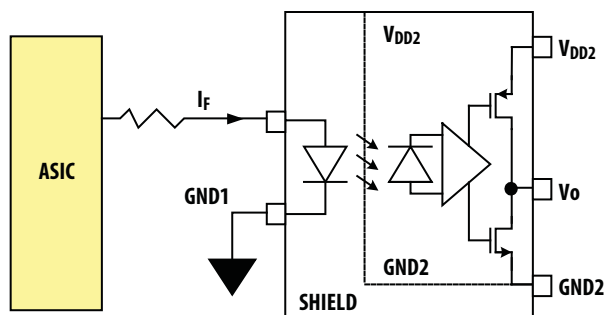

Figure 1. ACPL-M61L directly driven from ASIC without external buffer.
- A low-current LED input that allows direct drive from CMOS outputs (refer to Figure 1)